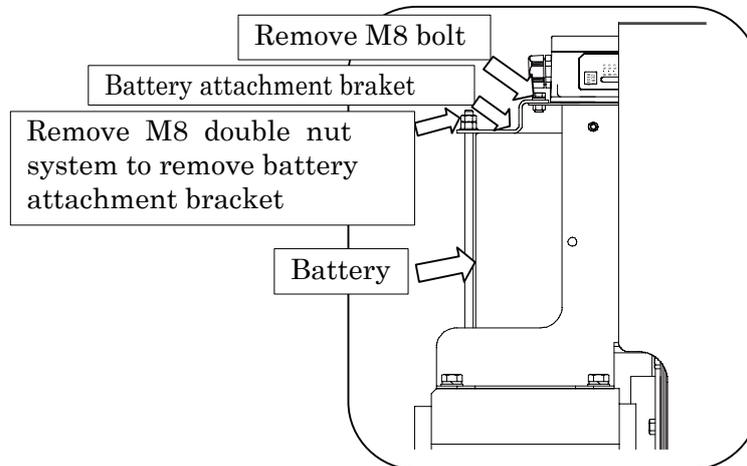

Fig.9 Mounting battery in detail
- (3) Remove the M8 bolt and the M8 double nut system to remove the battery attachment bracket illustrated in the Fig. 9.